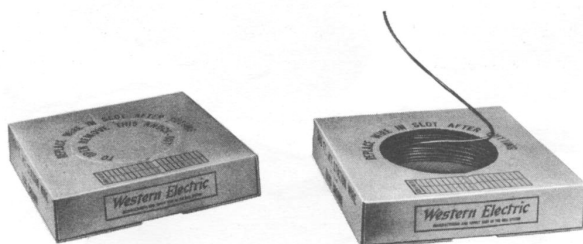

Fig. 1 — Removing Jacketed Wire
2. Place carton on floor and feed wire from center of coil (Fig. 1).